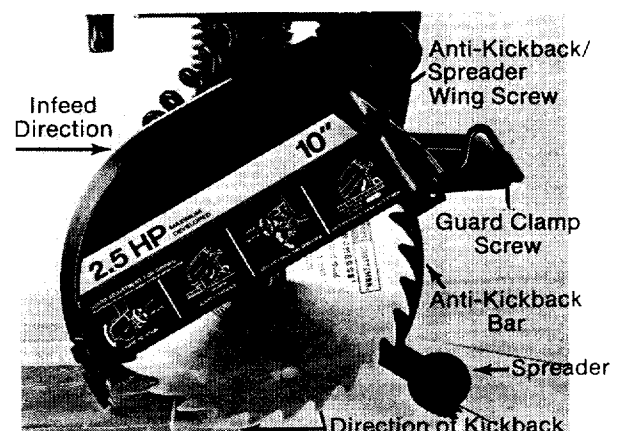

Fig. 112 Blade Guard Position for Ripping
6. Loosen the guard clamp screw and rotate the guard until the guard nose just clears the workpiece. Fig. 112.